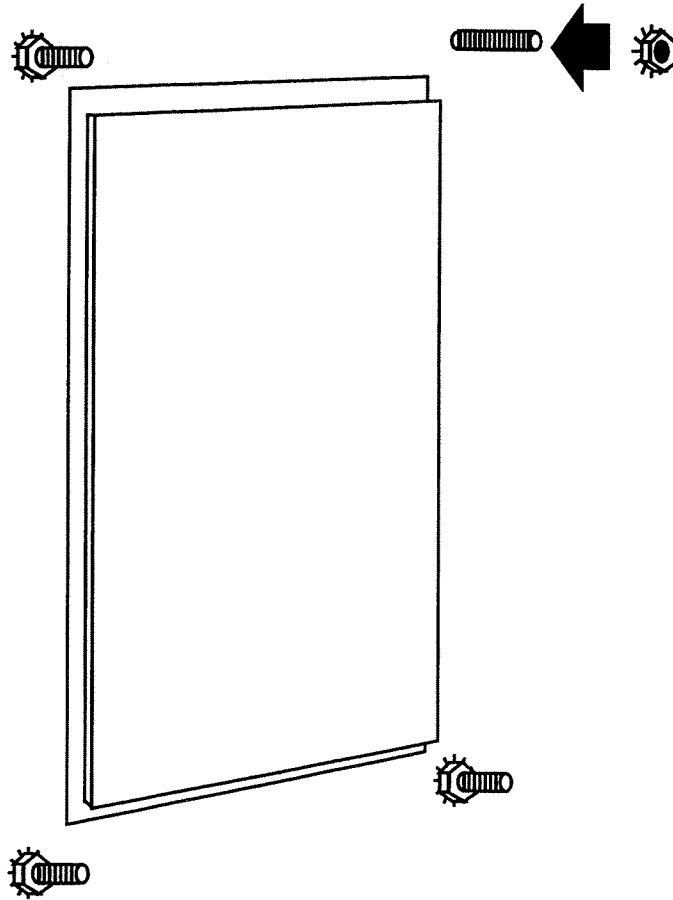

Figure 3.
3. Position the remote unit in the panel cutout, so that the four setscrews project through the four drilled holes in the panel, as shown in Figure 3. Use the four nuts provided to secure the remote unit, taking care not to overtighten. The gasket will seal without undue pressure.